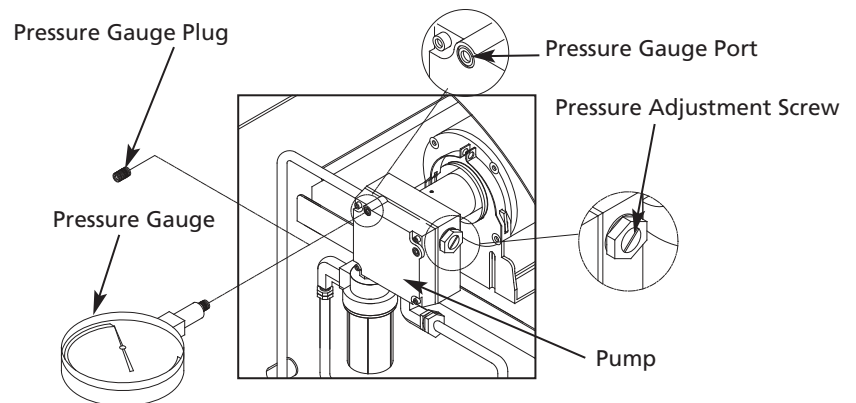

Figure 19 – Adjusting Pump Pressure
- Install accessory pressure gauge to pressure gauge port (See Figure 19).